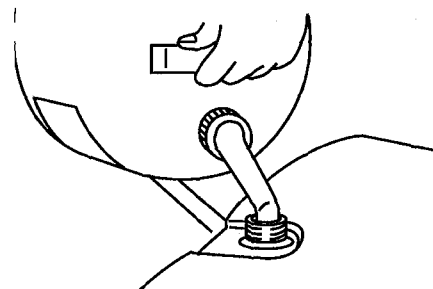

Figure 57
7. Fill fuel tank (Fig. 57) with fresh, clean gasoline/oil mix.